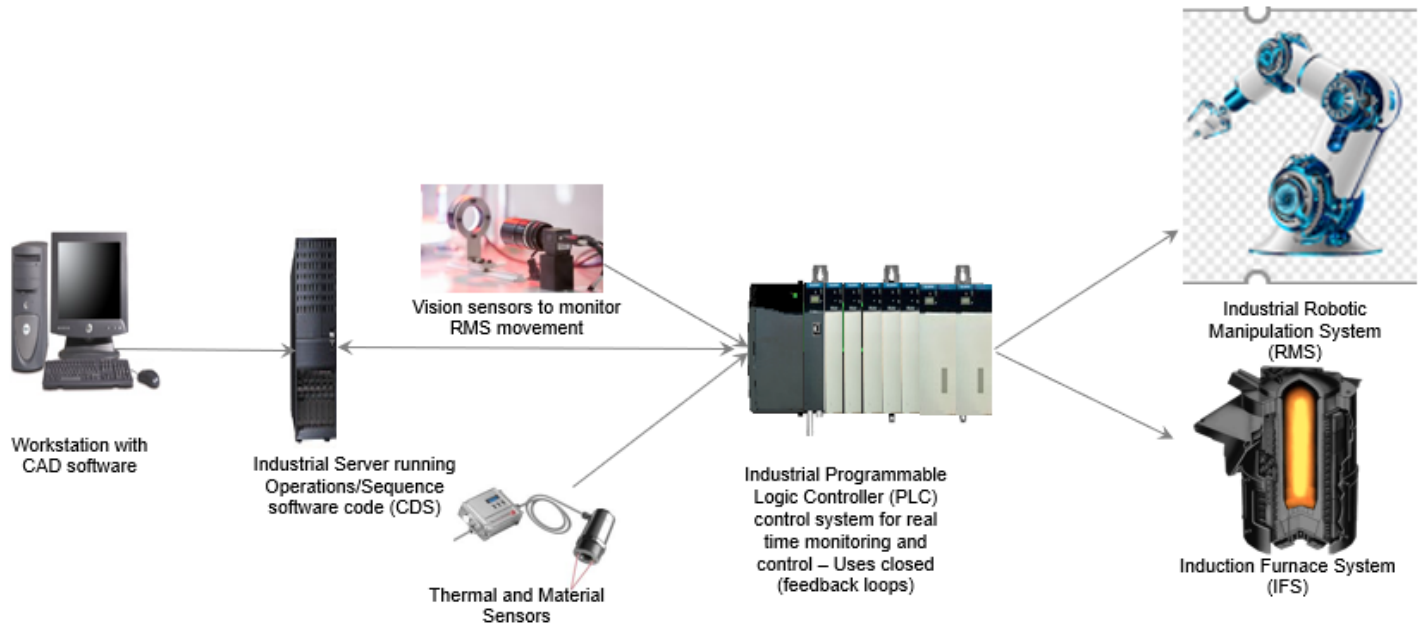

Figure 4-1
- Figure 4-1 shows overview of the Blacksmith Robot system components.